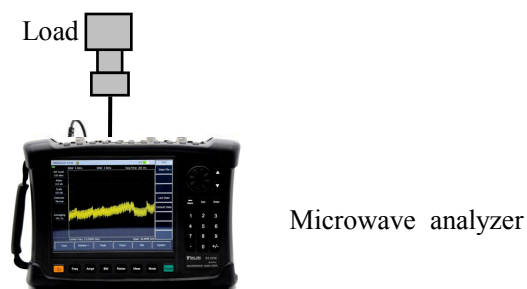

Figure 5-36 Test Block Diagram for Explicit Average Noise Level and Remaining Response
Test block diagram is shown in Figure 5-36.
- 1) Connect the 50Ω matcher to the RF input port of the microwave analyzer according to Figure 5-36.
- 1) Connect test instruments according to Figure 5-36. Connect a 50 Ω matcher on the spectrum analyzer signal input port and set up the spectrum analyzer as follows: